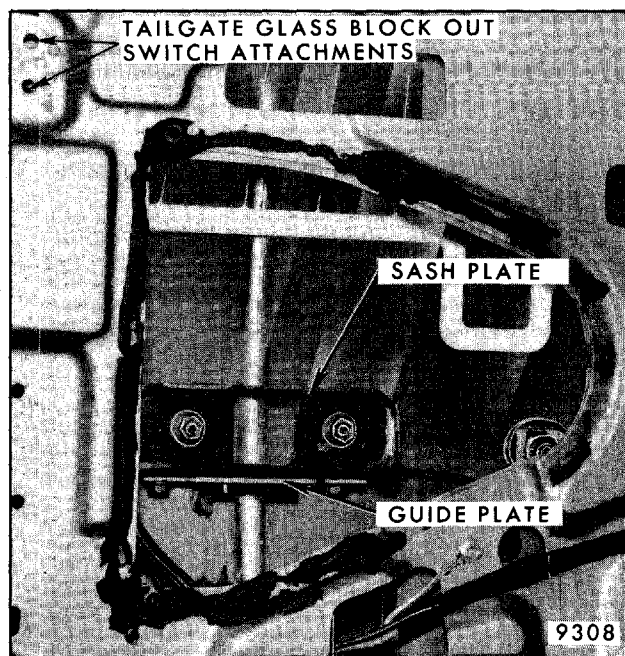

Fig. 7-129 - Tailgate Window Guide Plate Attachments
2. **TAILGATE WINDOW TOO FAR INBOARD OR OUTBOARD ALONG UPPER EDGE** - Loosen tailgate window guide plate attaching nuts, Figure 7-129, on right and left sides and glass stabilizer attaching bolts. With glass in full-up position, position belt trim support retainers against inner surface of glass and tighten bolts. Tighten all previously loosened attaching nuts and bolts torque to $8\text{ N}\cdot\text{m}$ (72 in-lb).
2. Remove screws securing switch to right upper lock as shown in Figure 7-129. Disconnect electrical connector and remove switch through access hole.